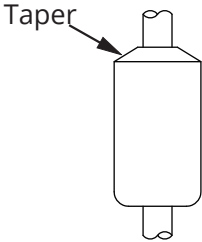

Figure 5.1
- The float(s) is/are oriented properly on the stem (See Figure 5.1 below). MPI-E floats will be installed by the factory. MPI-R floats are typically installed by customer.